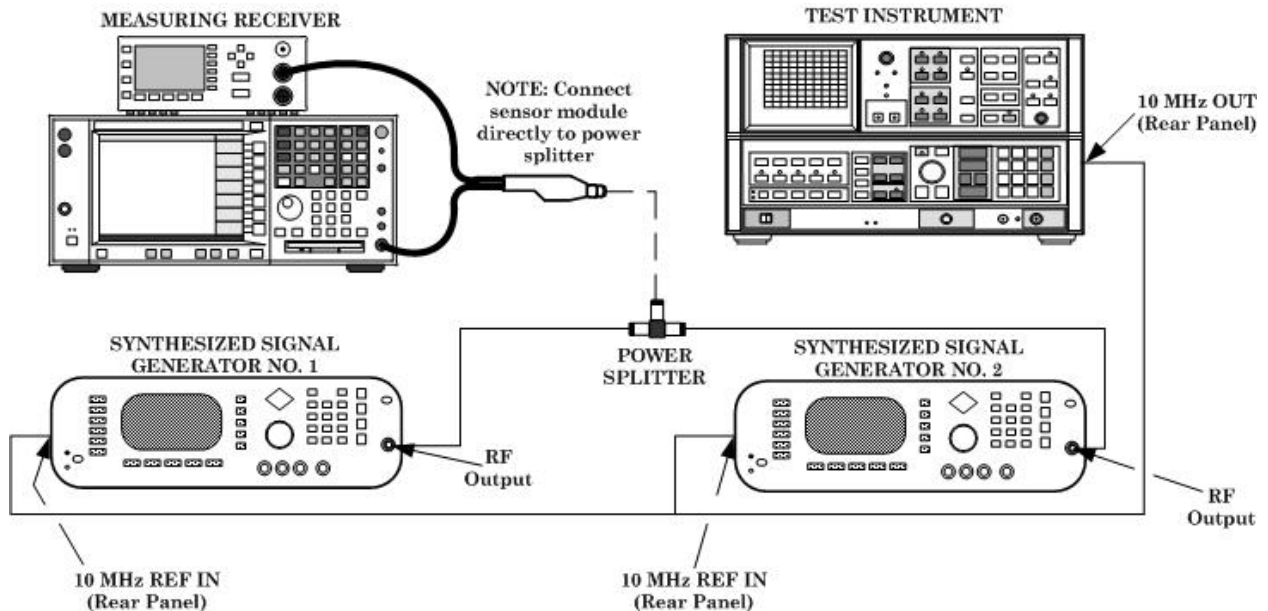

Figure 29. Harmonic distortion setup.
(31) Press TI **2-22 GHz** key.
(32) Connect equipment as shown in figure 29.